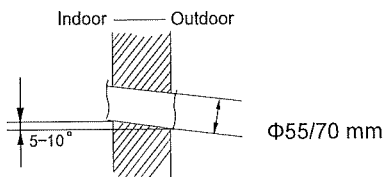

Fig.2
- (2) Open a piping hole with the diameter Φ55/70mm on the selected outlet pipe position. In order to drain smoothly, slant the piping hole on the wall slightly downward to the outdoor side with the gradient of 5-10°. (As show in Fig.2)